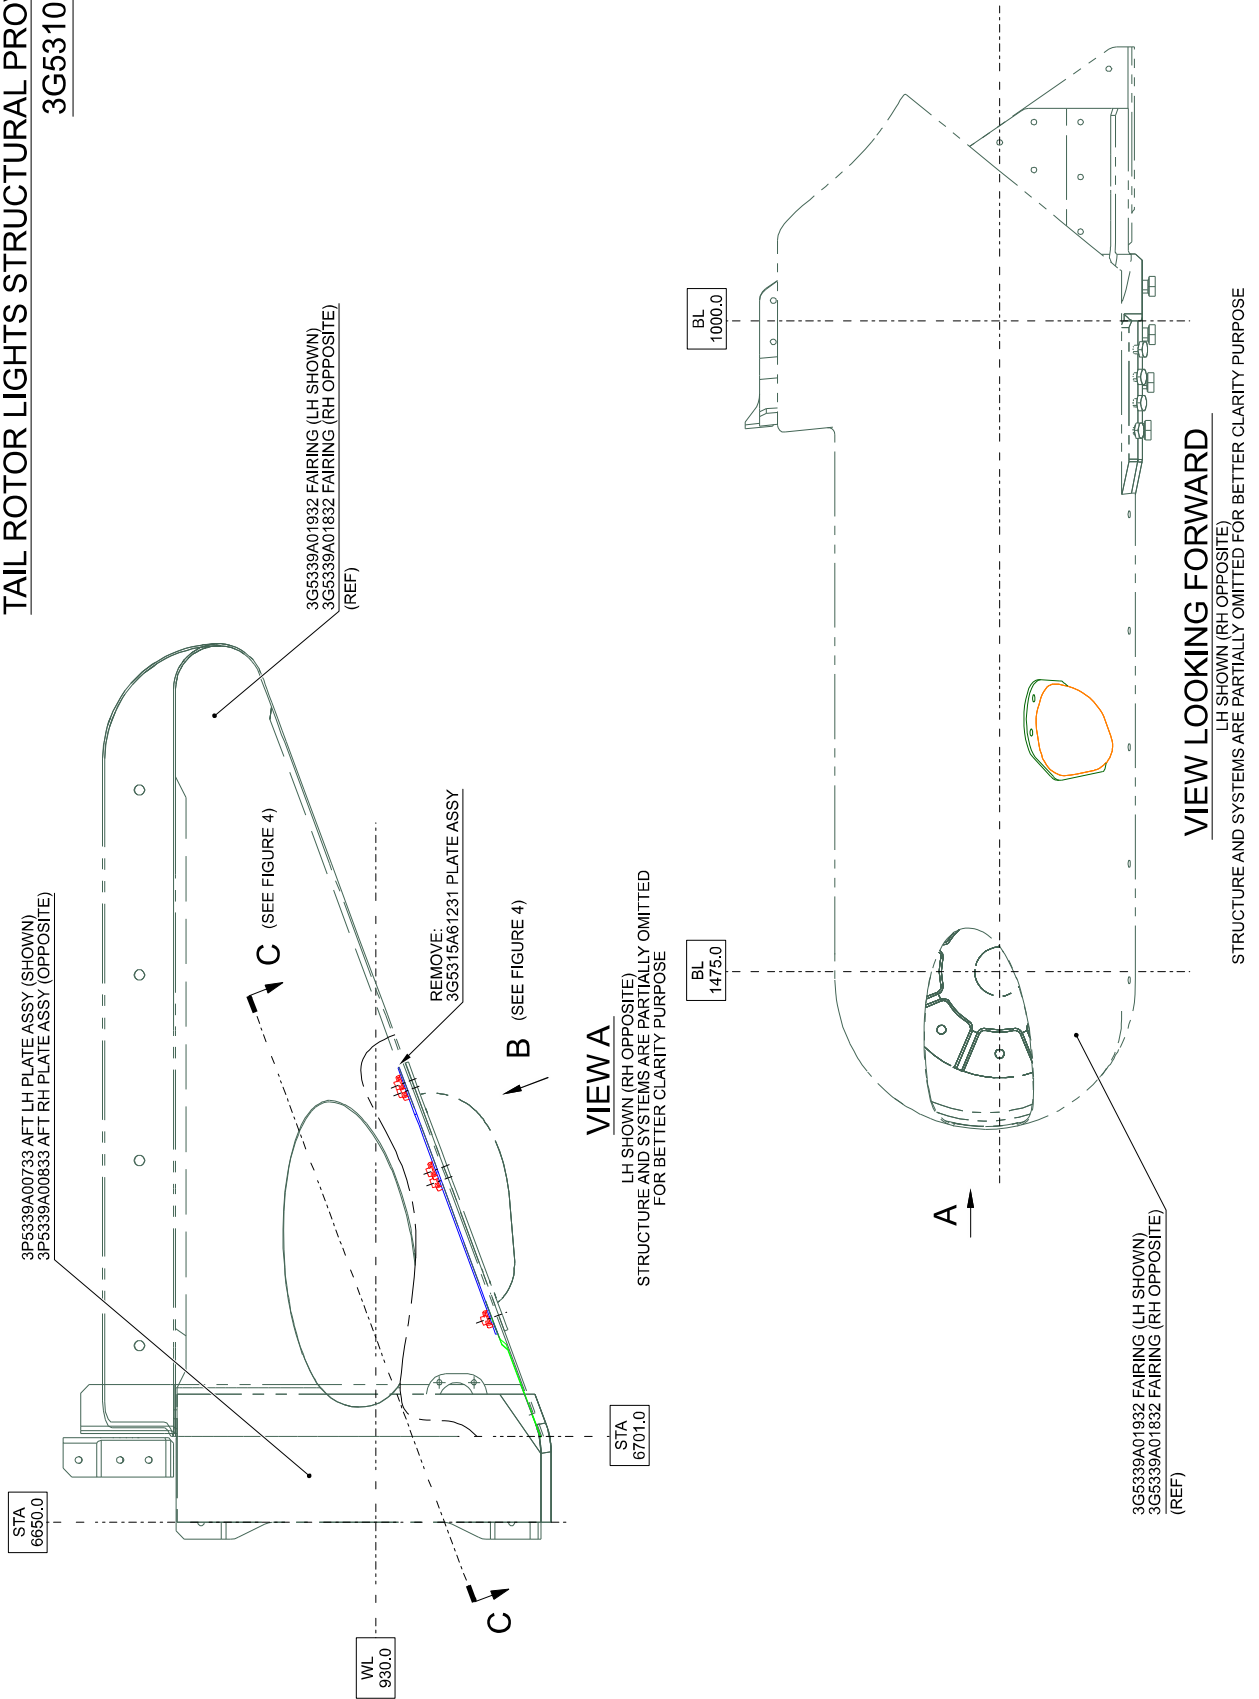

Figure 3
- 2.1.3 With reference to Figure 3 View A, remove the plate assy P/N 3G5315A61231 from the LH fairing P/N 3G5339A01932.
- 2.1.11 With reference to Figure 3 View A, remove the plate assy P/N 3G5315A61231 from the RH fairing P/N 3G5339A01832.